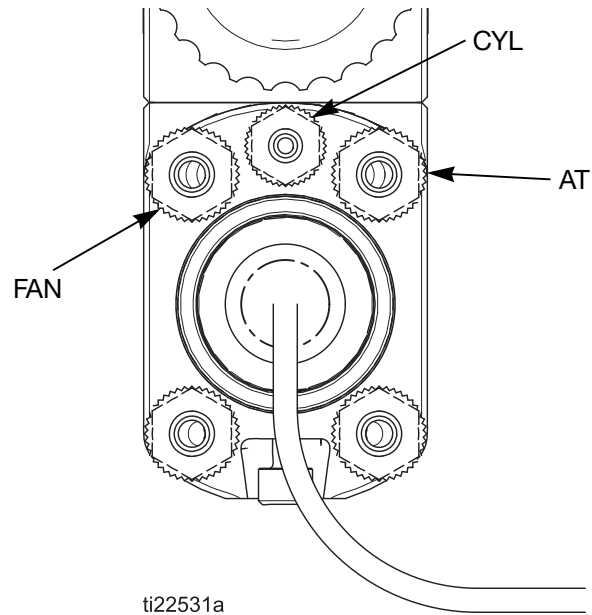

FIG. 20 Manifold Air Connections
6. Use the air pressure regulator on the atomization air supply line (AT) to adjust the degree of atomization. (See FIG. 20.) For example, for a fluid flow rate of 10 ounces per minute (0.3 liters per minute), a typical atomization pressure would be 20-30 psi (1.4-2.1 bar, 0.14-0.21 MPa) at the gun manifold.
2. Turn the gun spray functions on and off by using the air solenoid valve on the cylinder (CYL) air supply line. Applying a minimum of 50 psi (3.4 bar, 0.34 MPa) air pressure to the cylinder air fitting (CYL) will activate the on/off sequence of atomization air (AT), fan air (FAN), and fluid (P). See FIG. 20, page 29.